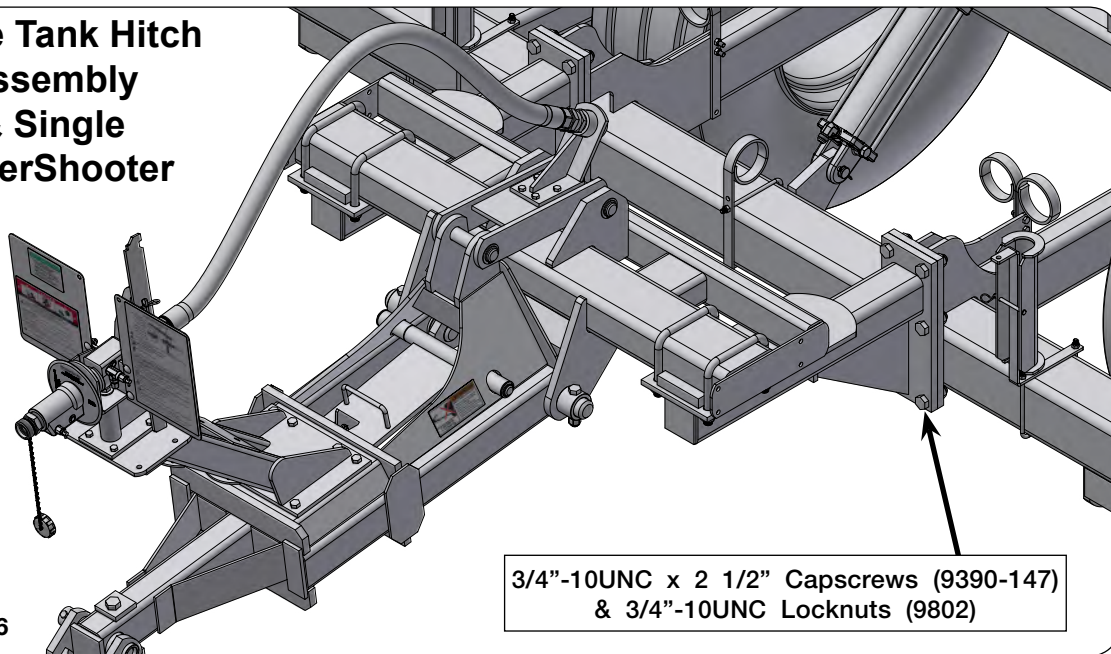
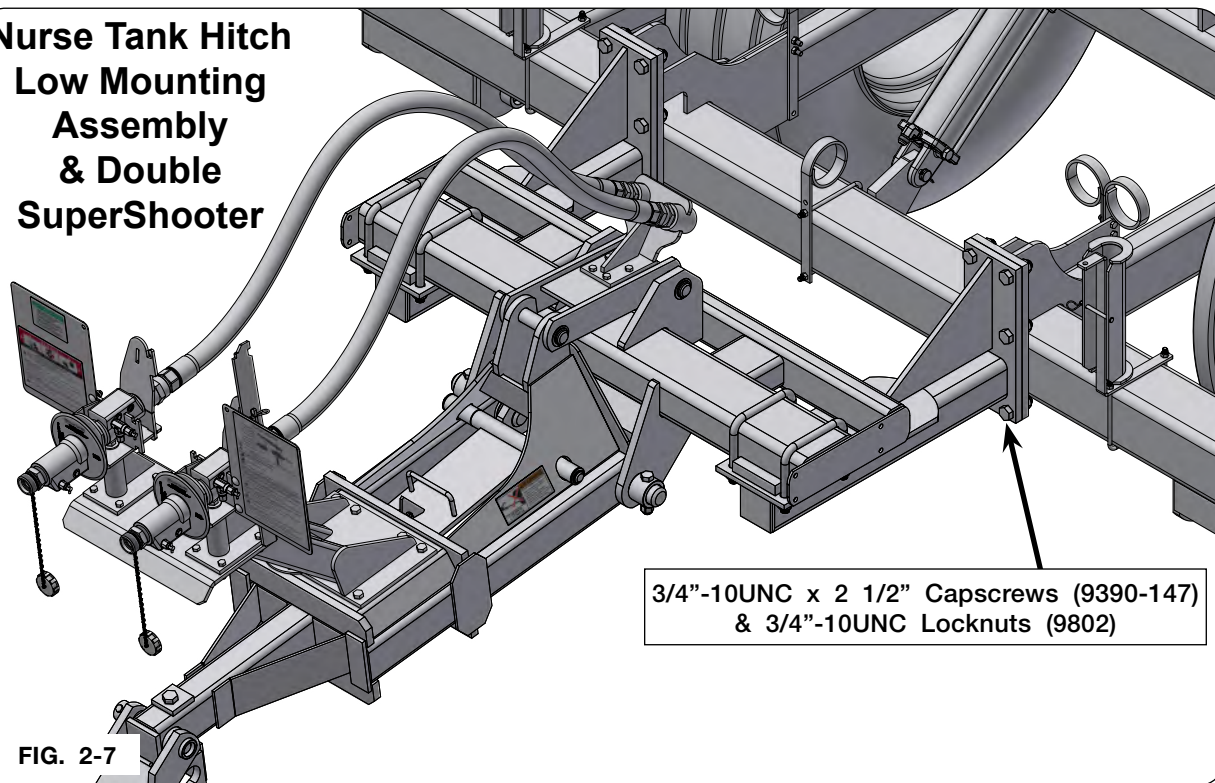

FIG. 2-6
FIG. 2-7
1. Using a safe lifting device rated at a minimum of 1000 lbs., attach the nurse tank hitch assembly to the main frame with twelve 3/4"-10UNC x 2 1/2" capscrews (9390-147) and 3/4"-10UNC locknuts (9802) (FIG. 2-6 or FIG. 2-7). Tighten hardware according to Torque Chart in MAINTENANCE section.